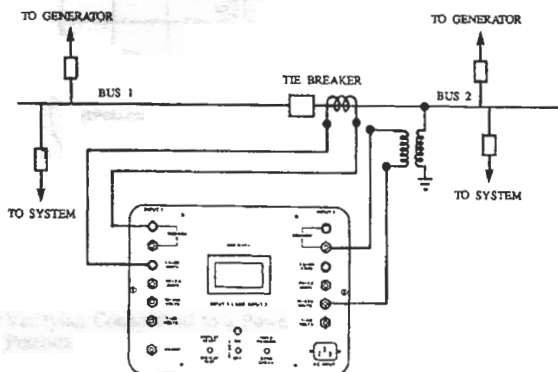

FIGURE 5: Determining Real and Reactive Power Flow
- D. Determining Real and Reactive Power Flow in a Power System. The phase angle meter shown in FIGURE 5, will read any angle from 0 to 359.9 degrees depending upon the direction of real and reactive power flow. If real power is leaving the bus and reactive is entering, the reading should be from 270° to 359.9°. If on the other hand, real power is entering and reactive is leaving the bus, the reading should be from 90° to 180° to 270°. If both real and reactive power are entering the bus, the reading should be from 180° to 270°. If both real and reactive power is leaving the bus, the meter should read from 0° to 90°.